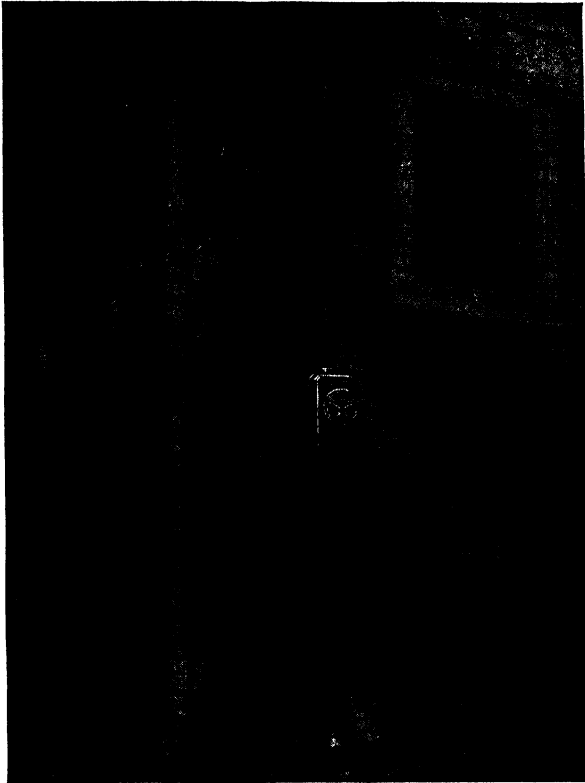
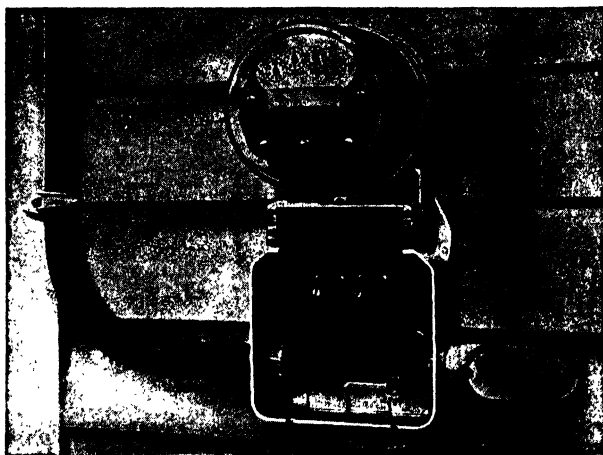
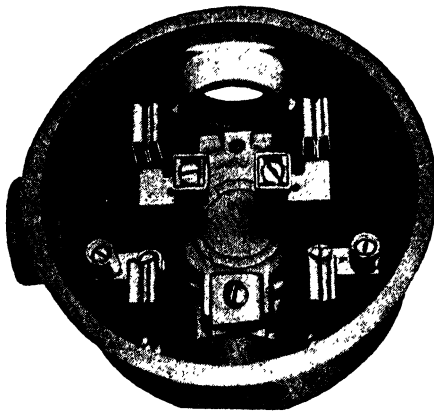

Fig. 4. Outdoor Installation of Meter in Protective Case
Fig. 5. Interior Wiring of Meter Connection Box That Can Be Used either Indoors or Outside
Fig. 6. A Three-Conduit Meter Socket for Vertical Mounting
**Meter Fittings.** An installation of rigid conduit service with an outdoor meter mounted inside a protective case is shown in Fig. 4. An entrance elbow is used at the bottom of building to turn the
A view of another type of connection box is shown in Fig. 5. This is arranged for horizontal entrance and exit of the service conduit. The connections of the wires in Fig. 5 are clearly shown for a single-phase, 3-wire, 120-240-volt watt-hour meter. There are four terminals at the bottom of the watt-hour meter. The two left-hand terminals are always marked and connected to the "line" and the two right-hand ones are always connected to the "load." The two outer terminals are connected together by the winding inside the watt-hour meter, and the two center terminals are likewise joined together. If wires of three colors are used on the service wiring (such
The neutral wire should not be cut at this box, but looped under the connection screws. The connection box is grounded to the neutral wire by the clip in the box, as shown in Fig. 5.
When the building being wired is small and an electric range or water heater will never be installed, a 2-wire service and meter would be installed. The terminal connection box is wired the same as Fig. 5, except the lower wire going straight through the box is omitted. Then a black and a white wire are used from the service at left to the load at the right. The white wire is usually connected by looping it up and under the screws of one of the inner "line" or "load" terminals of the watt-hour meter block. The white wire is also grounded to the clip on the connection box in the same way as the lower wire in Fig. 5.
A type of meter connection box that is being used very extensively both for inside and outdoor mounting is the socket type, Fig. 6. The type of watt-hour meter to be used with this box, has, on its back, four blades that are inserted into the four clips. A clamping ring fits around the socket and holds the watt-hour meter in place. These socket fittings are also made without the conduit opening which is shown at the left in Fig. 6, in which case the service
conduit is run vertically as in Fig. 4. Another type of socket fitting with the openings on each side is used when the service conduit is run horizontally as shown in Fig. 5. In all installations the clips must be vertical as in Fig. 6, and the line wires are connected to the top two clips by fastening them to the screw connectors. The load wires are always connected to the two bottom clips. The neutral or grounded conductor on a 3-wire service is run straight through the fitting and grounded to it by fastening it under the screw above the lower conduit opening.